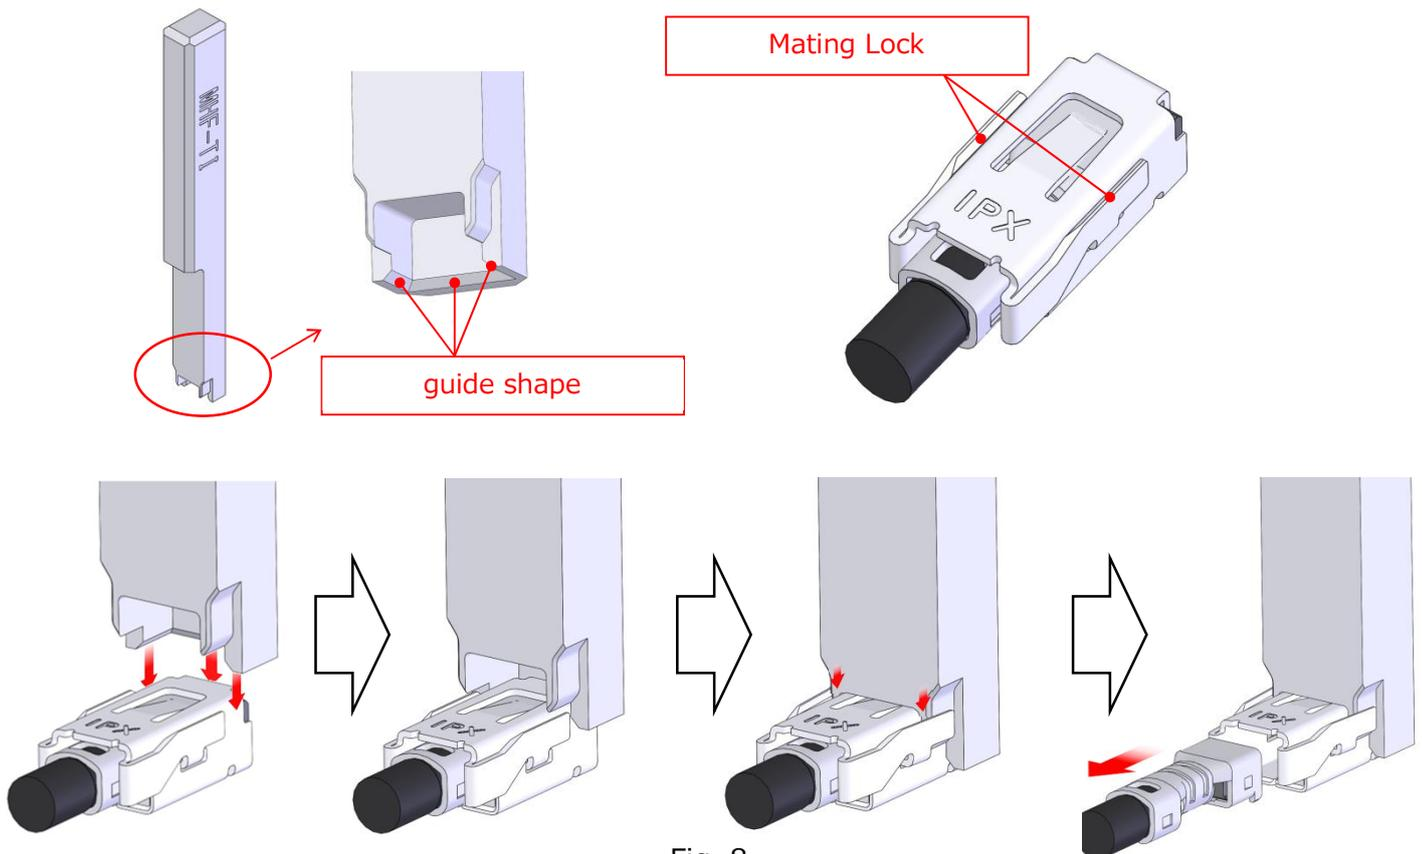

Fig. 8
- ① First, set the unmating JIG to the receptacle along the guide shape as shown in Fig. 8. Next, push the JIG vertically and unlock the mating lock. Keep unlock condition with JIG and pull the plug vertically for unmating. Unmating operation will be easier with fixed receptacle.